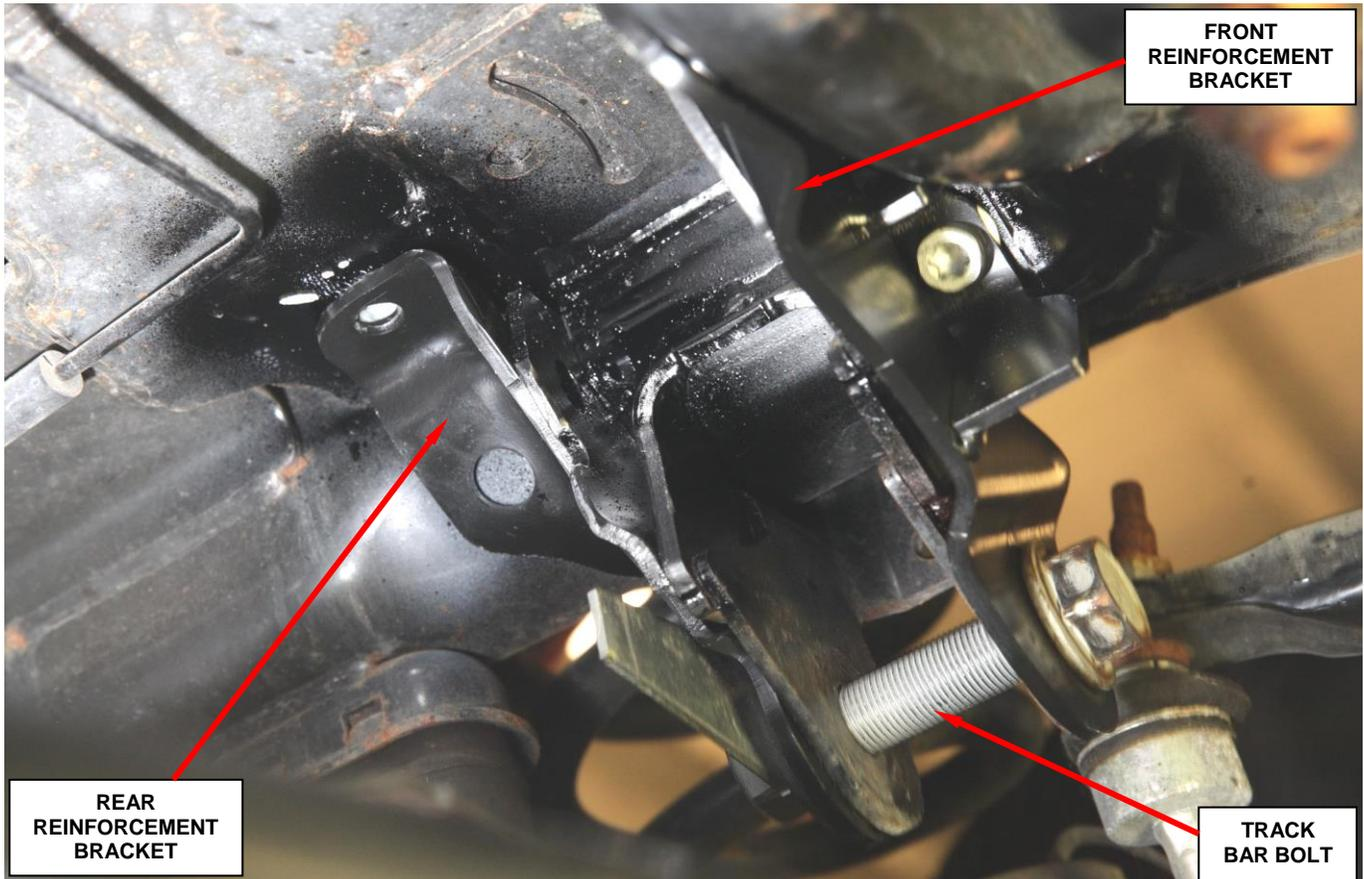

Figure 12 – Temporarily Install the Reinforcement Brackets
16. Install the reinforcement brackets into the position (Figure 12). Install the original track bar bolt finger tight.